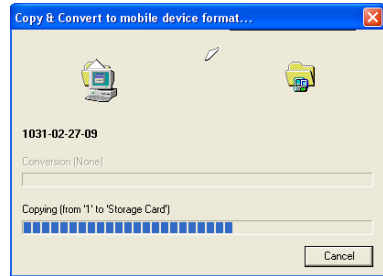

Figure 8-14. Export and Conversion in Progress
3. When the process of transferring the file(s) from the computer to the Mobile Device begins, the *Copy & Convert Progress* window displays the export and conversion in progress (Figure 8-14 on page 8-15).